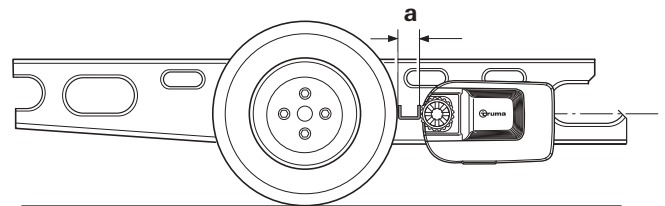

Fig. 34
- ▶ Adjust the correct distance (Fig. 34-a) between the tyre and drive roller by moving the drive units in the longitudinal direction using the spacer sheet supplied. The movable connection pipe makes it possible to adjust to the frame width. The weight of the caravan must be resting on the wheels when doing this.